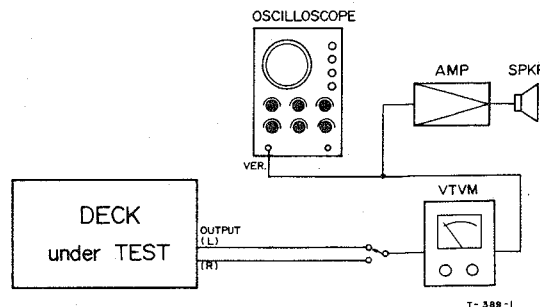

Fig. 6-5 Connection
3. Change the AC Voltmeter connection to the OUTPUT jacks as shown in Fig. 6-5.
Connection: See Fig. 6-5.